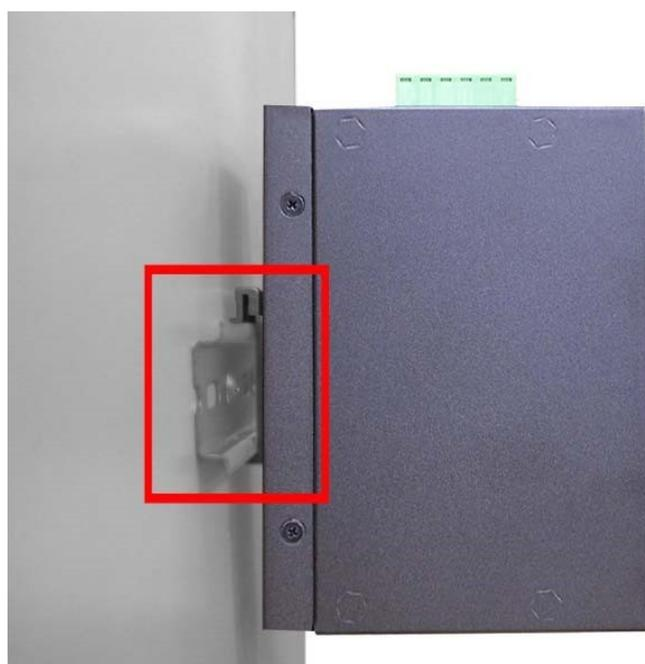

Figure 2.7 Installation to DIN-rail
2. Let the device down straight to slide over the rail smoothly. See Figure 2.7